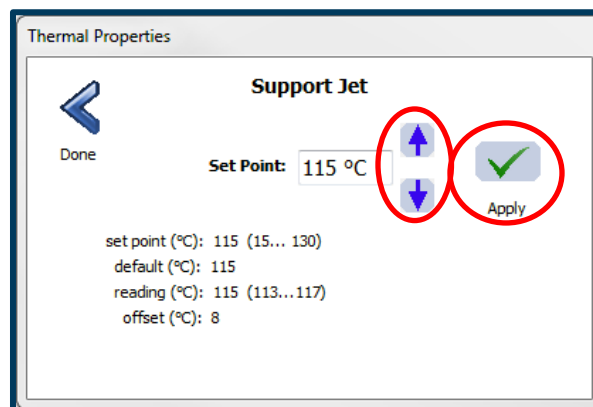

Figure 4
- c. Use the arrow buttons to adjust the setpoint temperature once the 3rd crayon of Melt material has been added. Press Apply once done (Figure 4).